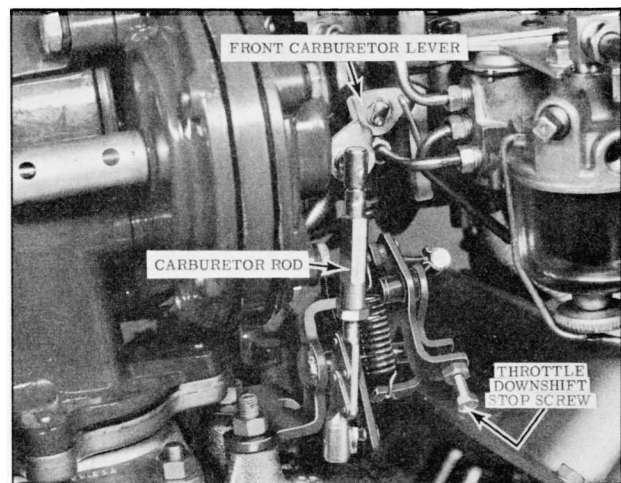

Fig. 8-122 Carburetor Rod
5. Remove air cleaner and disconnect upper end of the carburetor rod. (Fig. 8-122)
8. Loosen the carburetor lock nut and shorten the rod. (Fig. 8-122) Connect the upper end of carburetor rod to the front carburetor lever.